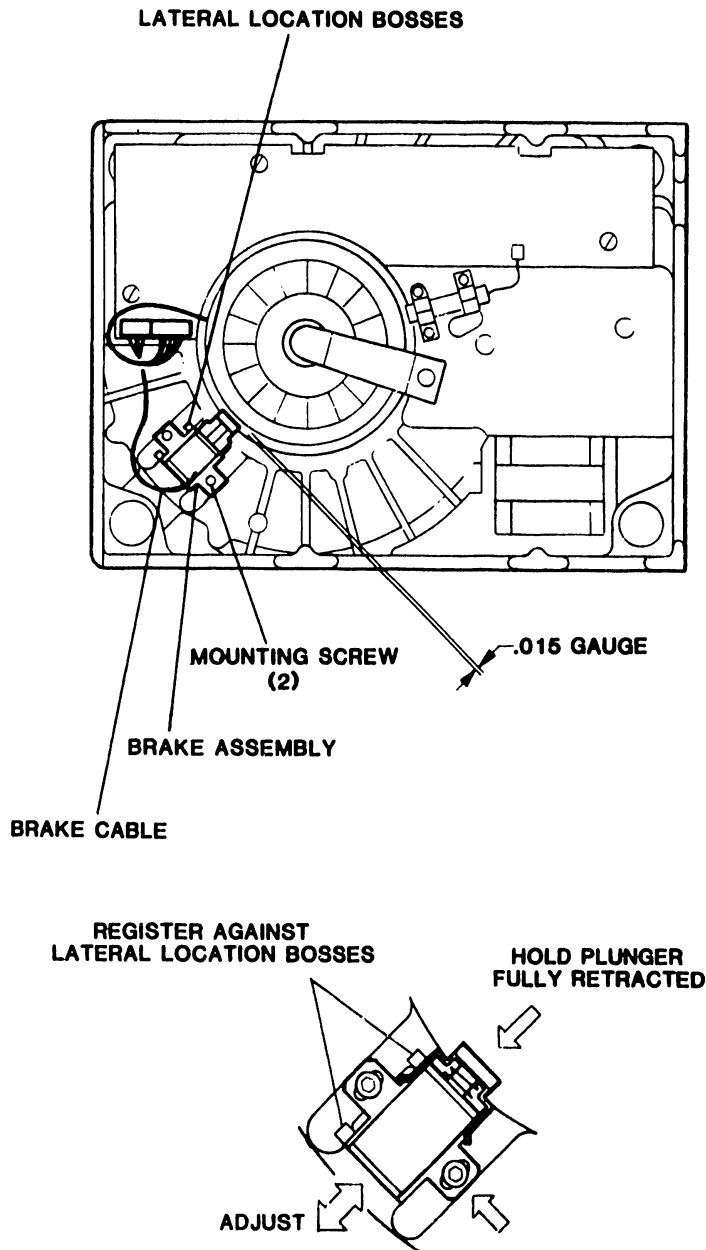

Figure 6-4. Brake Assembly Removal and Replacement
6.3.4 Brake Assembly Removal and Replacement (Figure 6-4)
With mounting screws loosened, grip brake assembly with thumb, fore and middle fingers as shown in Figure 6-4. Squeeze assembly together and slide forward and against lateral location bosses. At the same time place .010 gauge between spindle motor and brake. Tighten and torque brake assembly mounting screws to eight inch pounds. Following torquing of screws, check to ensure that the brake pad is spaced .010 from the braking surface when the plunger is fully retracted .010 \pm .003.